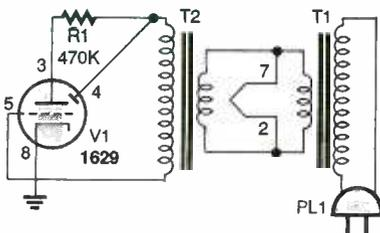

Fig. 1. The simple version of the Magic Eye circuit, shown here, is a for-show-only unit.
**Circuit Description.** Figure 1 shows the schematic for the Magic Eye. The version of the circuit shown in that figure can be used only for show. Transformer T1 steps the 117-volts AC from the wall outlet down to 12.6-volts AC for the filament of the 1629 tube, V1. The other transformer, T2, then steps the voltage back up to 117-volts AC for the target and plate. The two transformers isolate the tube from the power lines for safety.
Figure 2 shows how a few additional components can be added to make the circuit a real tuning indicator for old radios. While the grid of the tube in Fig. 1 is simply grounded, in Fig. 2 it's connected through resistor R2, capacitor C1, and potentiometer R3 to the circuit ground and AVC line of a radio. Potentiometer R3 lets you calibrate the circuit so that the Eye will close when a station is tuned.
Fig. 1. This Shortwave Converter lets you listen to either AM or SW with a flick of switch S1. And because of tuning-capacitor C21, you can tune in any shortwave station, not just ones that are broadcast in 10-kHz increments.